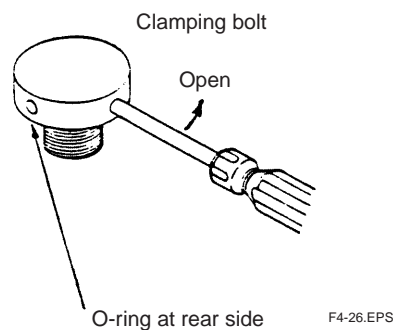

Figure 4.26
1. Remove the clamping bolt at upper part of analyzing unit by turning anti-clockwise with a screwdriver. (Figure 4.26)